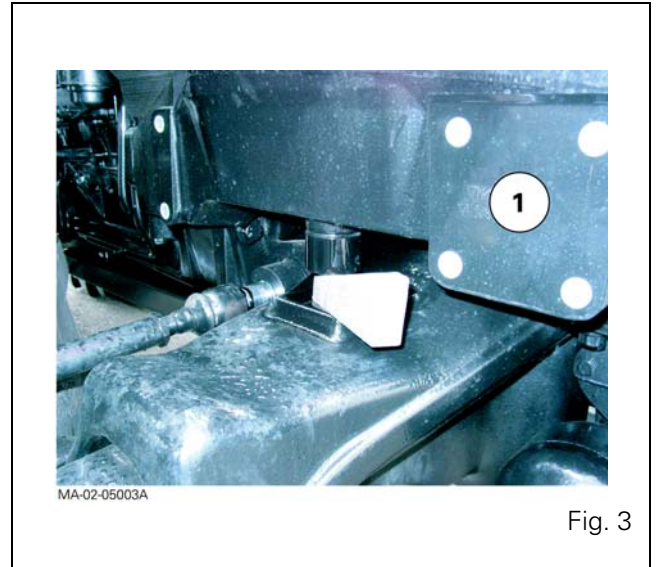

Fig. 3
**22.** Stop the front axle swinging (all versions) by sliding a suitable chock in at each side of the support (1) (Fig. 3).